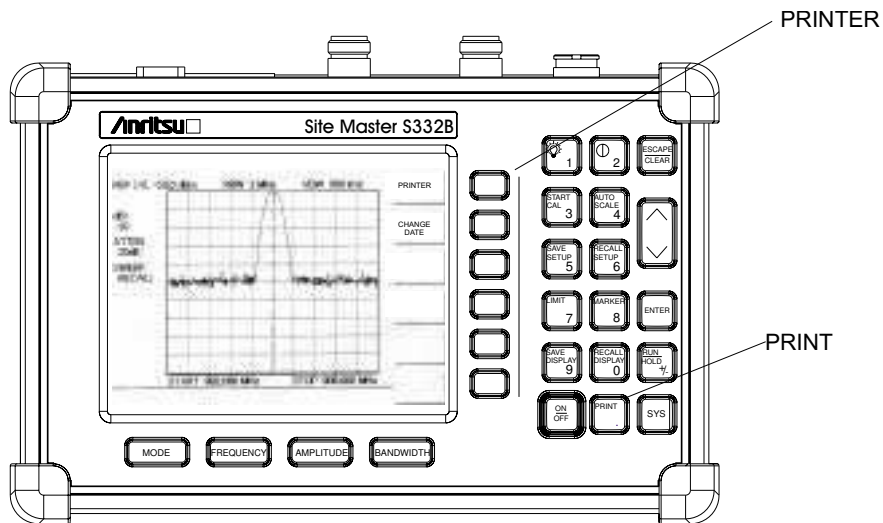

Figure 3-13. PRINTER Soft Key and PRINT Key
Step 5. Press the **PRINT** key. (Figure 3-13).